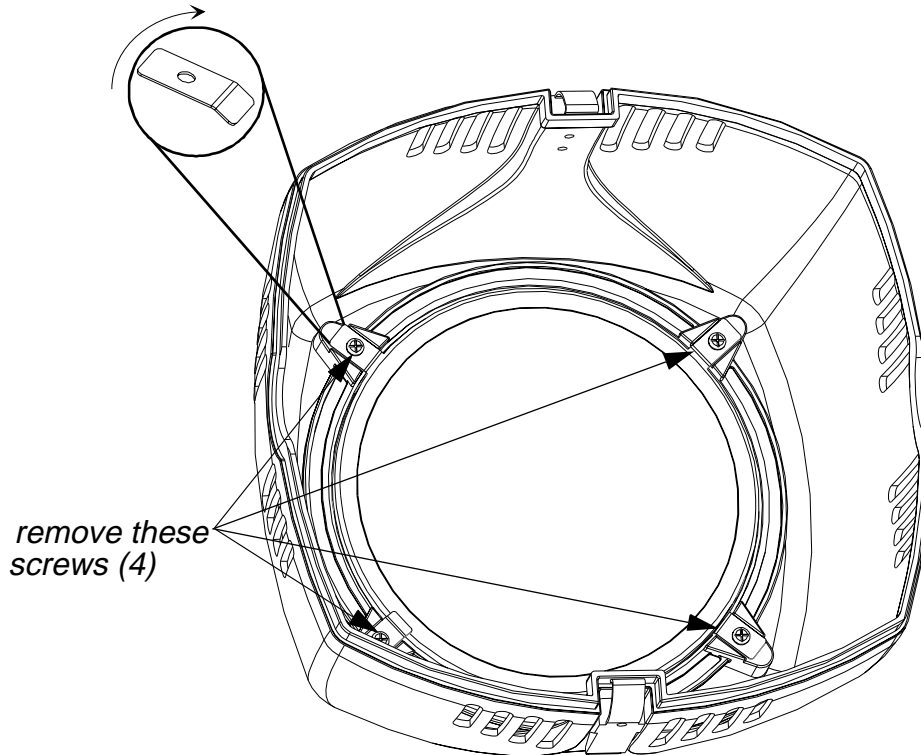

Figure B.7. Lens Removal
4. Using a phillips-head screw driver, loosen the four screws securing the clips to the lens and rotate the clips 90°. Refer to Figure B.7.